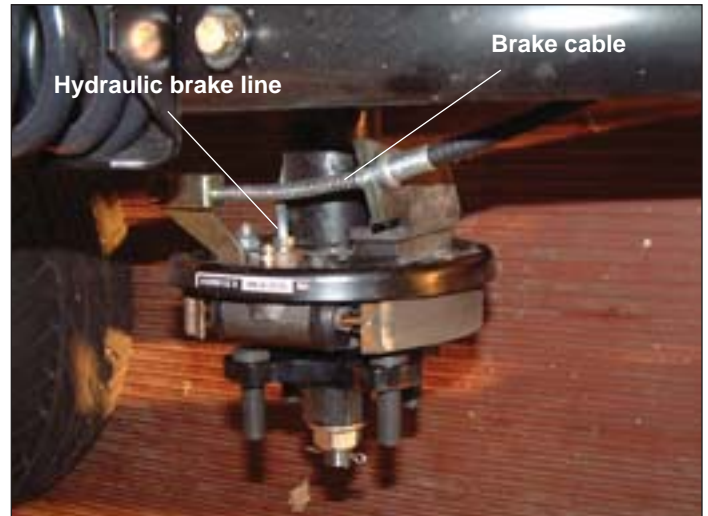

Figure 6-57. Rear Brake Drum and Hub
4. Connect hydraulic brake lines to brake assemblies on the rear axle (Figure 6-57)